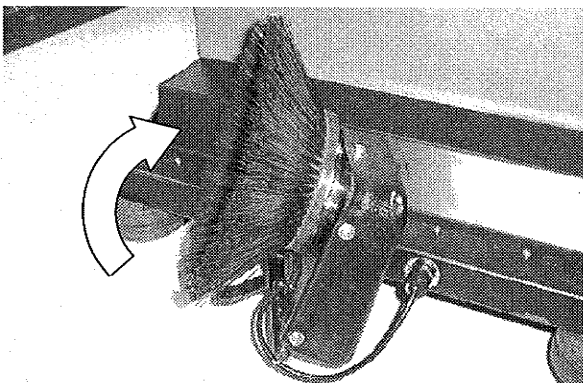

FIG. 5
6. Swing up side brush to transport position when not in use (Figure 5).